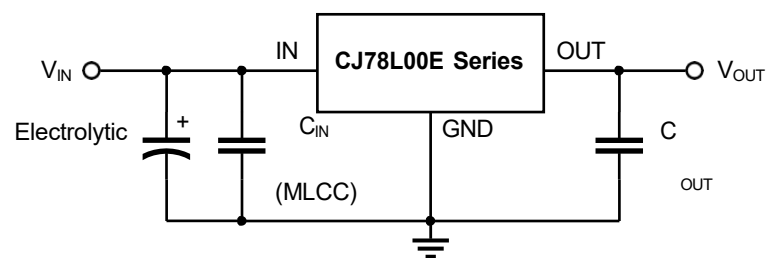

Figure 8-4. Electrolytic capacitor is used at IN
3. For the application circuit using the low ESR multilayer ceramic capacitor (MLCC) type input capacitor, the LC resonant voltage spike caused by hot plugging or power transmission line inductance can be suppressed by using RC suppression circuit for parallel connection of the input capacitor. A very simple method is to parallel a suitable electrolytic capacitor to the input capacitor. As shown in Figure 8-4. For most $100\mu\text{F}/25\text{V}$ electrolytic capacitor has an ESR of about 0.2Ω at 100kHz . This can completely suppress the overshoot phenomenon of the input and minimize the possibility of IC damage due to input voltage spikes.